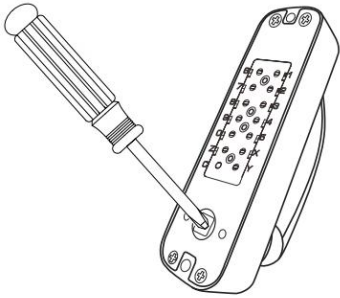
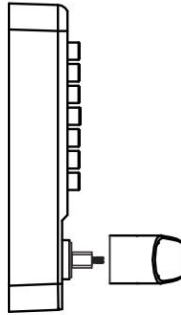

FIG7A
FIG7B
2. Use a Phillips screwdriver to loosen the lock bolt (Figure 7A) and move the handle away from the lock body (Figure 7B).